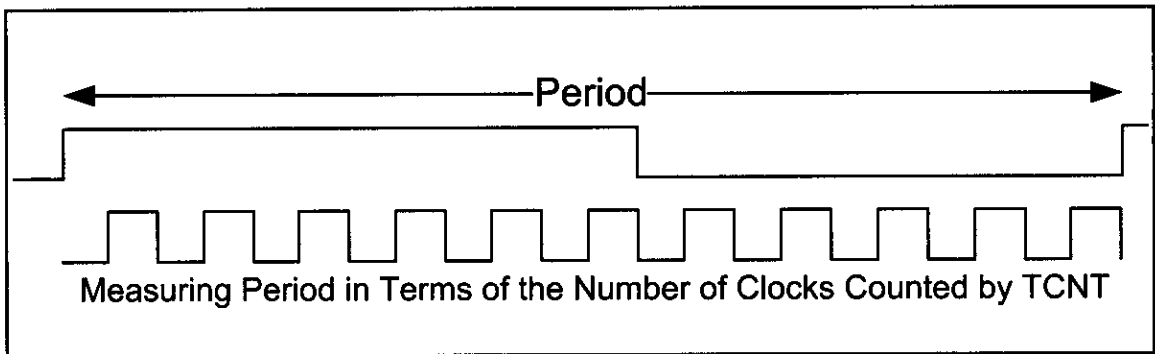

Figure 15-20. Using Input Capture to Measure Period
6. Save the ICR1 for the second edge. By subtracting the second edge value from the first edge value we get the time. See Examples 15-23 and 15-24. Also see Figure 15-20.